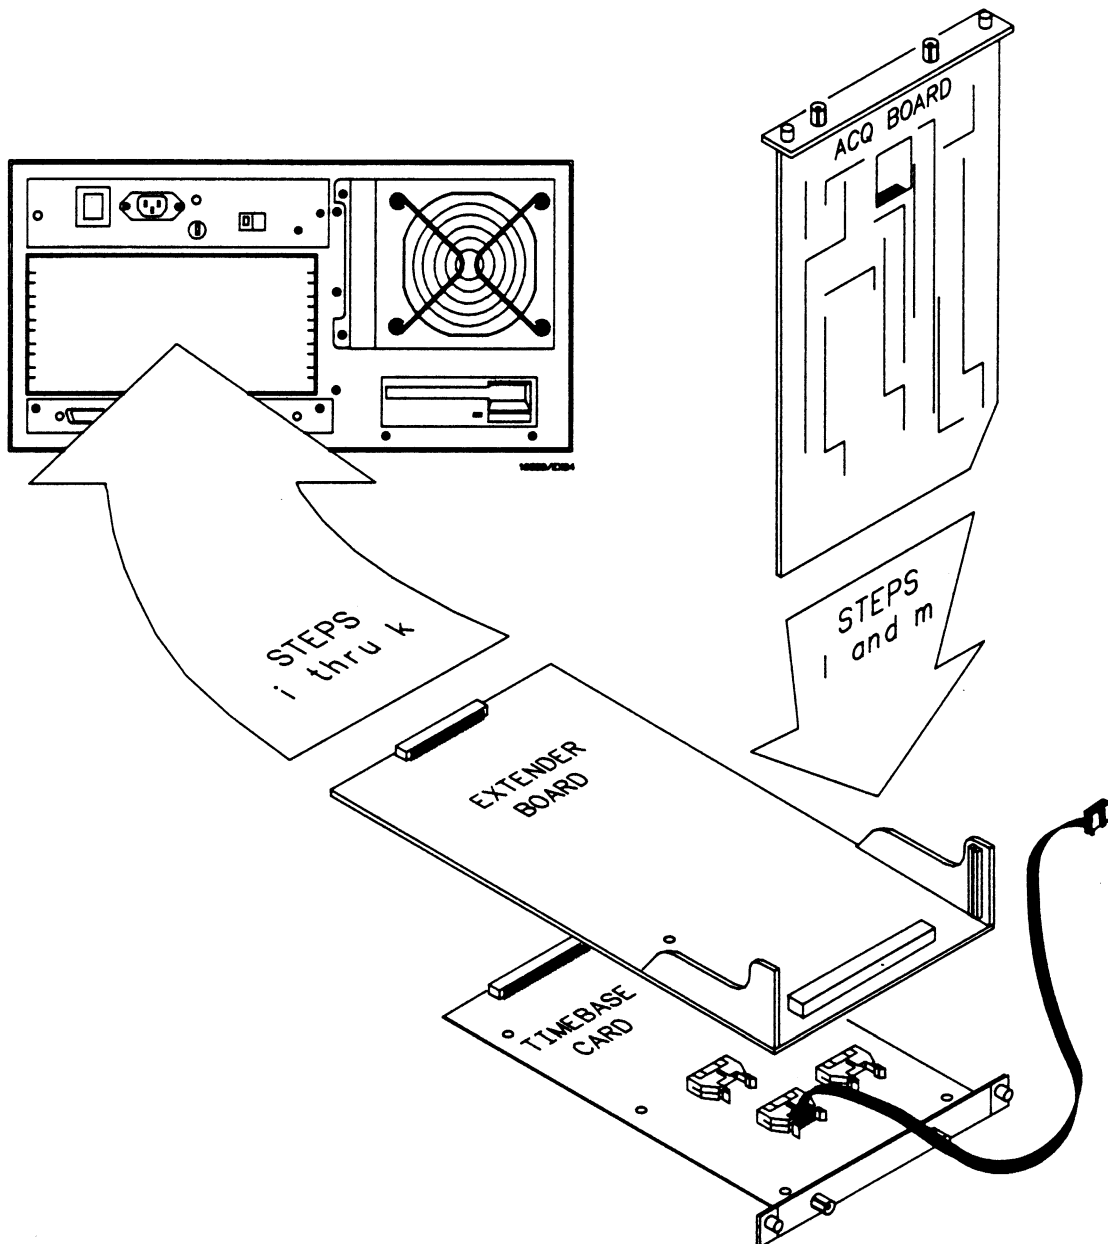

Figure 4-21. Installation Summary
- l. Plug acquisition card into extender board. See figure 4-21.